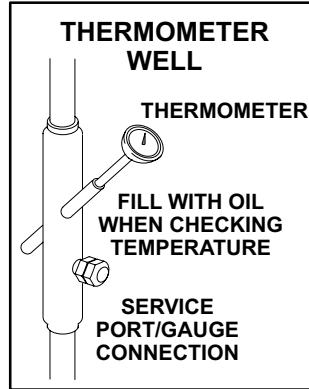

FIGURE 22
- 7 - Insert thermometer and check liquid line temperature. See figure 22.